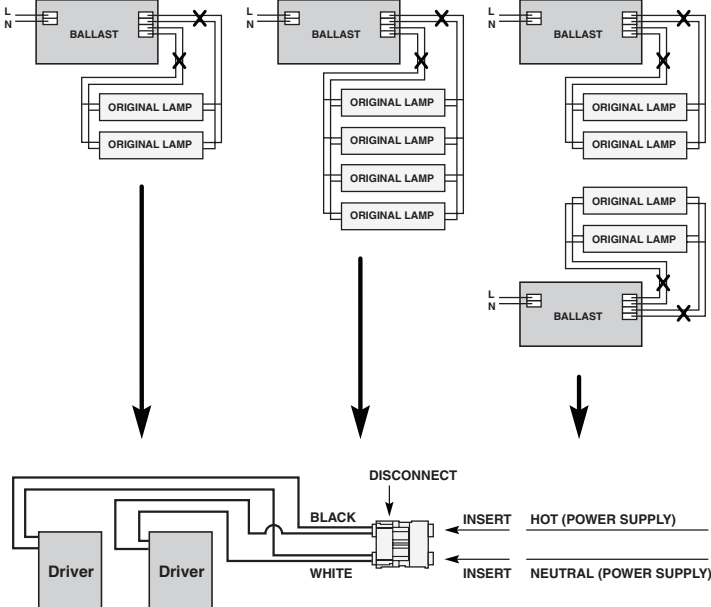

Figure 5.0
3. Attach liner label to the empty fixture in a visible area (see Figure 5.0).
4. Install disconnect free end to luminaire power supply leads. Hot (+) lead to black port . White (-) neutral to other port (See Figure 5.0).